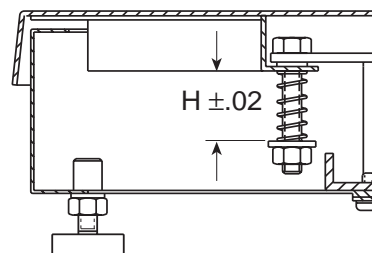

Figure 5: Spring Height
8. Using an accurate caliper, check compressed spring length on four overload springs (Figure 5). If necessary, adjust spring length to specifications shown in table 3. Replace top cover and re-level scale if necessary.